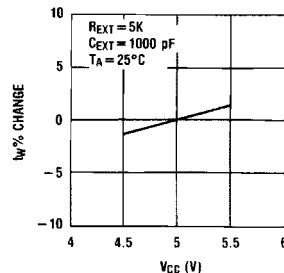
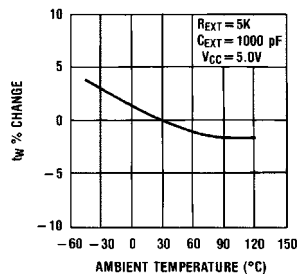

FIGURE 3.
FIGURE 4.
5. Output pulse width versus V_{CC} and operation temperatures: Figure 3 depicts the relationship between pulse width variation versus V_{CC}. Figure 4 depicts pulse width variation versus ambient temperature.